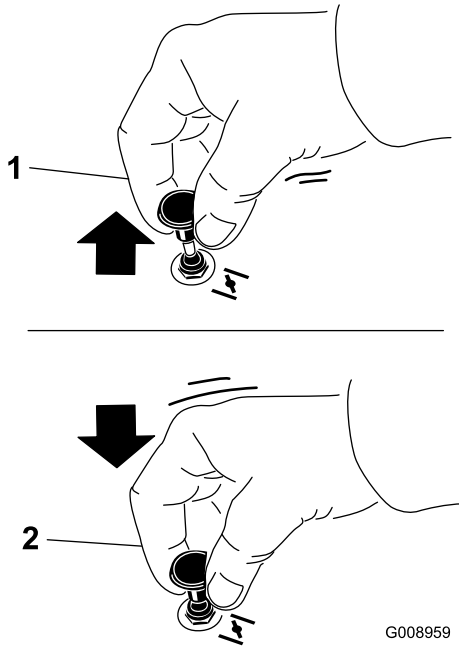

Figure 22
1. Pull up the choke knob to engage the choke before using the key switch (Figure 22).
2. Push down the choke to disengage the choke after the engine has started (Figure 22).